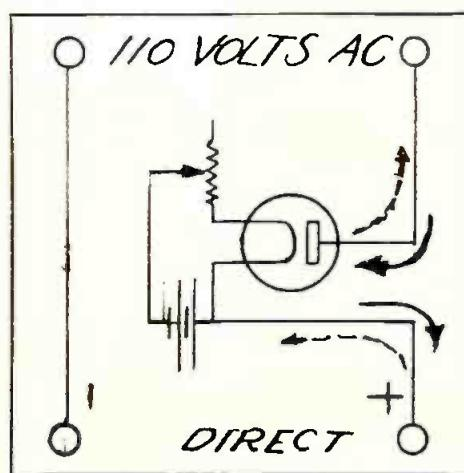

Fig. 1. The simplest rectifier, using a vacuum tube. Dotted arrows point out electron flow. Full arrows show current flow as assumed before the advent of tubes.
**T**HE most perfect rectifier known is the vacuum tube itself. Although not looked on exactly in this light, there are tubes used as rectifiers—as witness the tungsten battery charger that uses a large tube containing a filament and a plate for the rectifying work. In Fig. 1 we find the principle of a tube rectifier